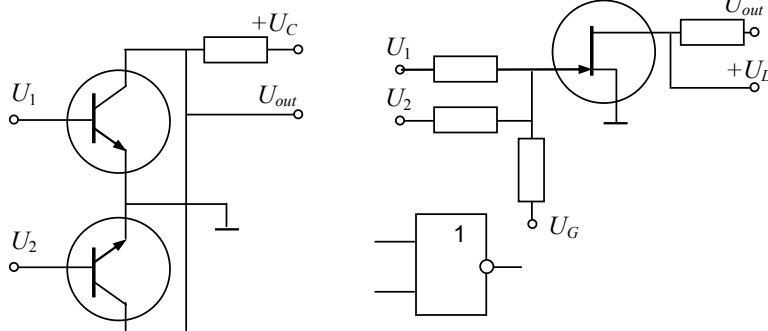

Fig. 2.61
**NOR gate.** The emitter follower is not the only output of the circuit described earlier. The collector output may be used too, if the emitter terminals are grounded as shown in Fig. 2.61. In these circuits, the output signal is inverted regarding to the input. The topology is known as a *NOR gate* (*OR-NOT circuit*). This component is a *NOT OR*, or inverted *OR* gate. Its output is high only when all the inputs are low.